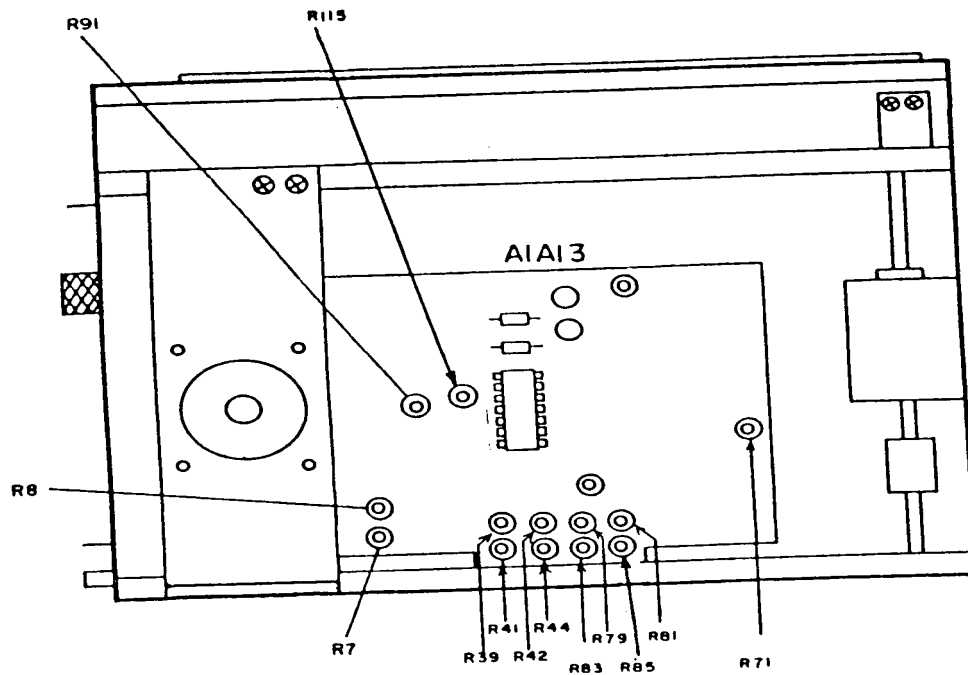

Figure 5. Test instrument - right view.
(1) Adjust A1A13R44 (fig. 5) for an oscilloscope indication of -10 kHz (R).
(2) Adjust A1A13R39 (fig. 5) until **FREQ ERROR** meter indicates 10 kHz (R).
(3) Adjust A1A13R44 (fig. 5) for best in-tolerance condition while repeating **a** (1) through (7) above (R).
(4) Adjust A1A13R41 (fig. 5) until **FREQ ERROR** meter indicates 4 kHz (R).
(5) Adjust A1A13R42 (fig. 5) until **FREQ ERROR** meter indicates 1 kHz (R).
(6) Adjust signal generator amplitude for -107 dBm.
(7) Set **RCVR WIDE-MID-NARROW** switch to **WIDE**.
(8) Adjust A1A13R7 (fig. 5) until **INPUT LEVEL** lamp (front panel) just illuminates (R).
(9) Set **RCVR WIDE-MID-NARROW** switch to **NARROW**. Adjust A1A13R8 (fig. 5) until **INPUT LEVEL** lamp just illuminate (R).
(10) Set **DEV-PWR** switch to **SIG**. Adjust signal generator amplitude to -25 dBm. Adjust A1A13R91 (fig. 5) until **DEVIATION/WATTS** meter indicates FS (R).
(11) Repeat (6) through (10) above as necessary.
- (1) Adjust A1A13R71 (fig. 5) until **DEVIATION (kHz)** meter indicates zero (R).
- (2) Set **GEN-RCVR** switch to **GEN** and adjust A1A13R81 (fig. 5) until **DEVIATION (kHz)** meter indicates zero (R). Set **RCVR-GEN** switch to **RCVR**.
- (3) Repeat (1) and (2) above as necessary.
- (4) Adjust **VAR** control until measuring receiver indicates **2 kHz**. Adjust A1A13R85 (fig. 5) until **DEVIATION (kHz)** meter indicates **2 kHz** (R).
- (5) Adjust **VAR** control until measuring receiver indicates 6 kHz. Adjust A1A13R83 (fig. 5) until **DEVIATION (kHz)** meter indicates **6 kHz** (R).
- (6) Adjust **VAR** control until measuring receiver indicates 20 kHz. Adjust A1A13R79 (fig. 5) until **DEVIATION (kHz)** meter indicates **20 kHz** (R).